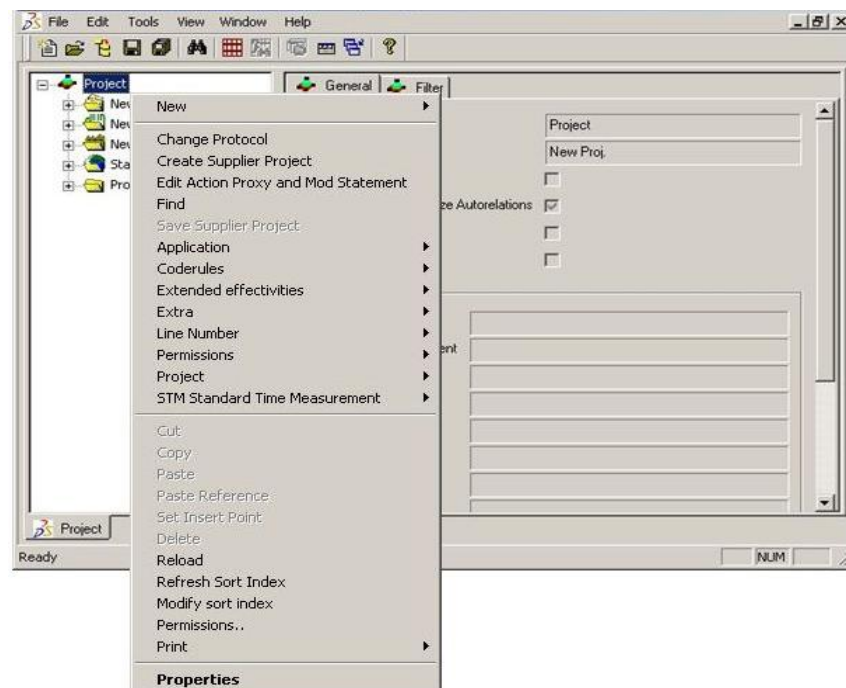

Figure 51: Opening a Context Menu using the Right Mouse Button
- 3) The context menu opens. *Please refer to the Figure 51.*
The Properties menu is available on almost all hierarchical levels. Properties menus are accessed using a context menu (*Please refer to the Figure 51*) of the selected level. The following example illustrates the use of a Properties menu.